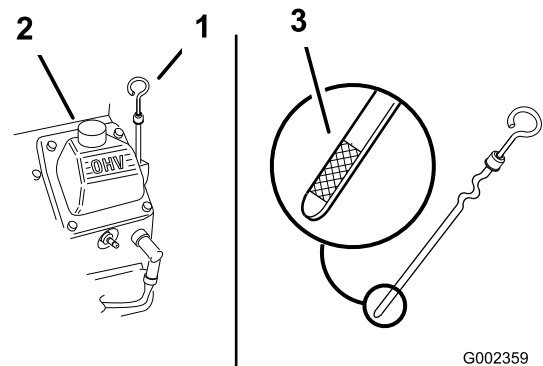

Figure 160
- Clean around the oil-fill cap and dipstick (Figure 160).